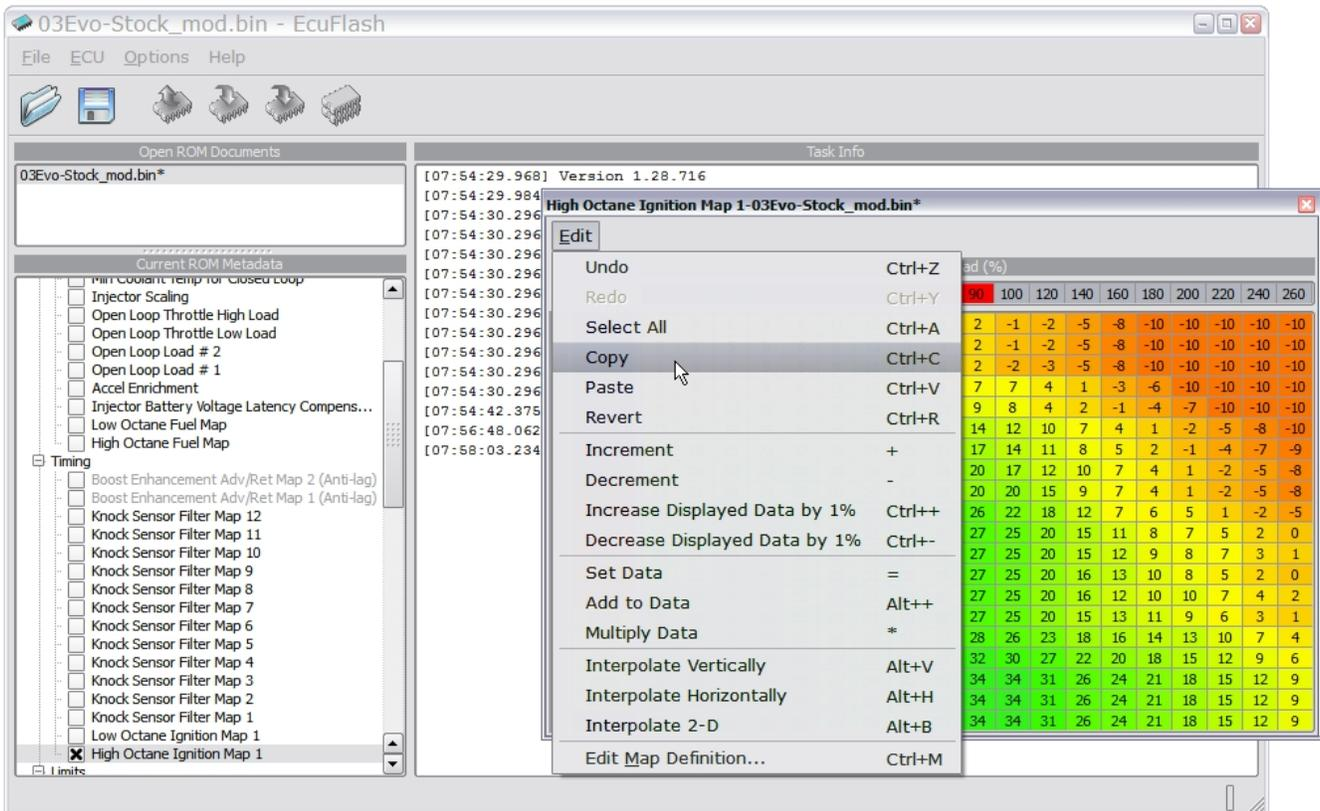

Figure 6, modified 2003 Evolution VIII ECU High Octane Ignition Map, copy cells
- o Copy the selected cells (figure 6)